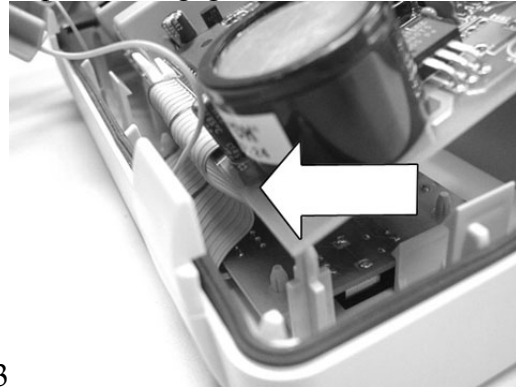
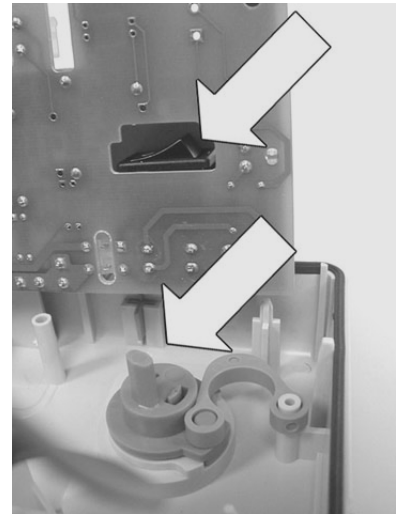

Figure 4
Figure 5
- 5.0 Fold the ribbon cable underneath the larger board as it is put into place. The ribbon cable should fold neatly underneath and along the edge of both boards (Fig. 4). Take note of the switch actuator position and the rocker position of the switch on the PCB (Fig. 5). Press the board into place and insure that all three snaps have engaged.